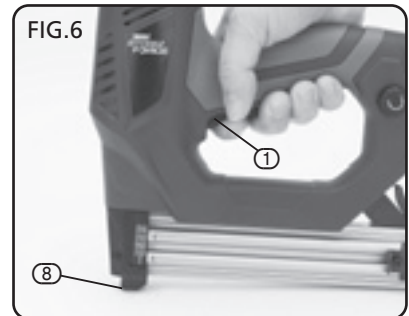

FIG.6
9.2 FIRING THE STAPLER/NAILER – FIG. 6